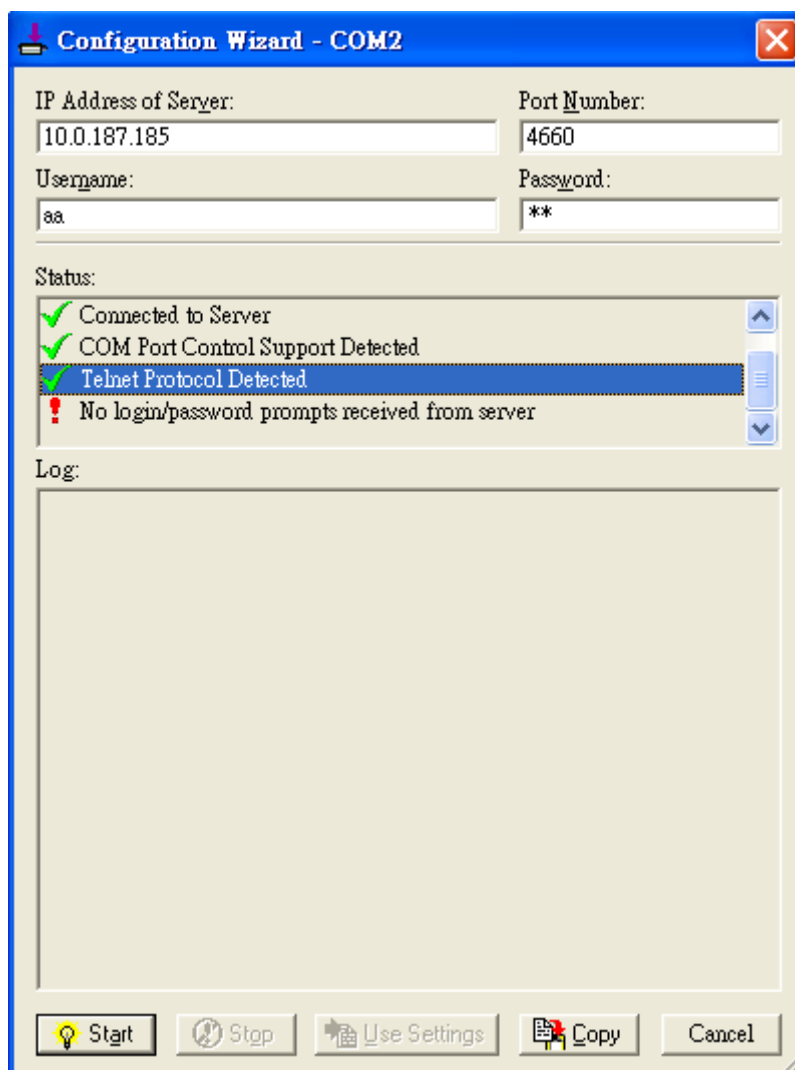

Fig. 4. 13
- If the exclamation mark begins with **No login/password prompts received from server** (Fig. 4. 13), it means credentials in the Serial/IP are enabled, but Virtual COM Authentication in the serial device server is not enabled.